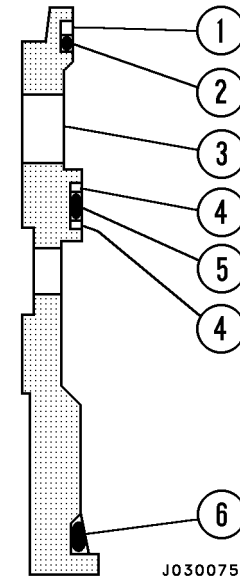

FIGURE 3-6. SLEEVE SEAL PLACEMENT
1. Install an O-ring (2, Figure 3-6) onto the smallest groove (on the top) of the regulator sleeve (3). Install O-ring (5) onto the middle groove on the regulator sleeve. Install O-ring (6) onto the largest groove (on the bottom) on the regulator sleeve.
2. Install a split nylon back-up ring (4) onto each side of the O-ring (5) located in the middle of the regulator sleeve.
3. Install one split nylon back-up ring behind the O-ring (2) located at the top end of the sleeve. This O-ring is the smallest of the three O-rings. Position the back-up ring so that it is next to the top of the regulator sleeve. The top of the sleeve is the end with the smallest O.D.